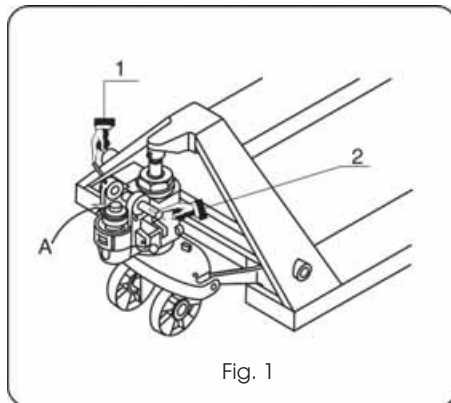
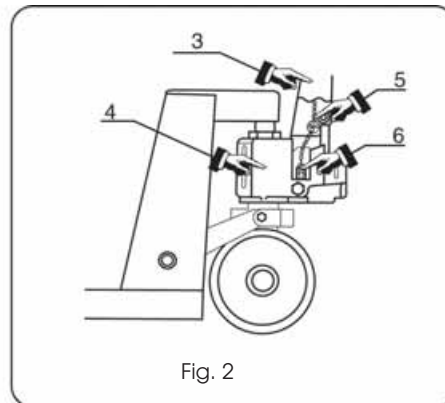

Fig. 1
Fig. 2
1. Remove one roll pin, item 1, Fig. 1 (117) from shaft, item 2, Fig. 1 (118) and keep safe for reuse later.
2. Remove shaft from pump body item 4, Fig. 2.
3. Insert Handle tube with warning label on top and trigger on R/H side, item 3, Fig.2 (108) at position A, Fig. 1, **Note ; handle needs to be held at an angle of approx 45° in order to fit the shaft**, connect handle tube to pump body by sliding the shaft, item 2, Fig. 1, back into pump body and handle tube.
5. Pass the roller chain, item 5, Fig. 2 (115), through the centre hole in shaft, Locate